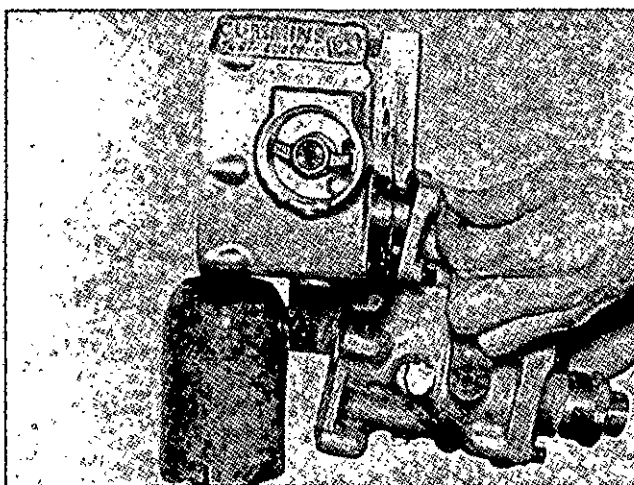

Fig. 4-16, (F552). Assemble the governor housing to the pump.
2. Install the converter governor housing assembly to the fuel pump. Use a new gasket, Fig. 4-16.